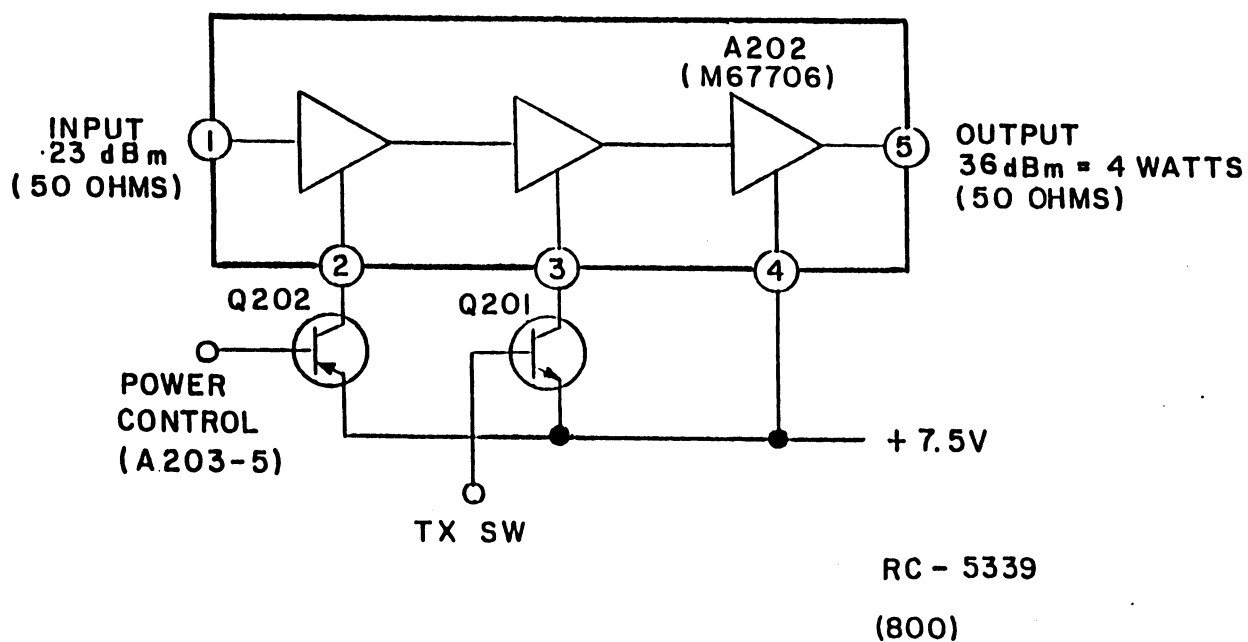

FIGURE 4 - POWER AMPLIFIER (PA)
Power Amplifier (PA) A202 is a three-stage, wide-band amplifier module with an input and an output impedance of 50 ohms (Figure 4). The first stage of the PA module has the dc power supplied by power control transistor Q202. The rf power output from pin 2 of the TX-Amp module A201 is connected through a resistor attenuator to pin 1 of the PA module where it is applied to the input of the rf power amplifier stages. The rf power amplifier stages amplify the input from the TX-Amp module to a typical power output level of four watts at pin 5. The output at pin 5 is connected through the power control hybrid IC A203 (PC) and filter network FN. A minimum power level of three watts is on the output of the filter network.